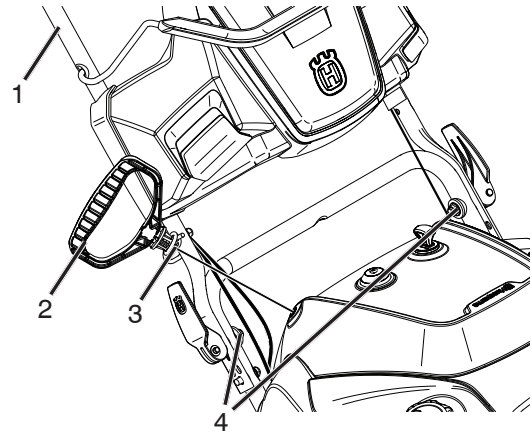

Figure 4
4. Pull up and push down slightly on the handle to verify handle is locked into place (Figure 4).